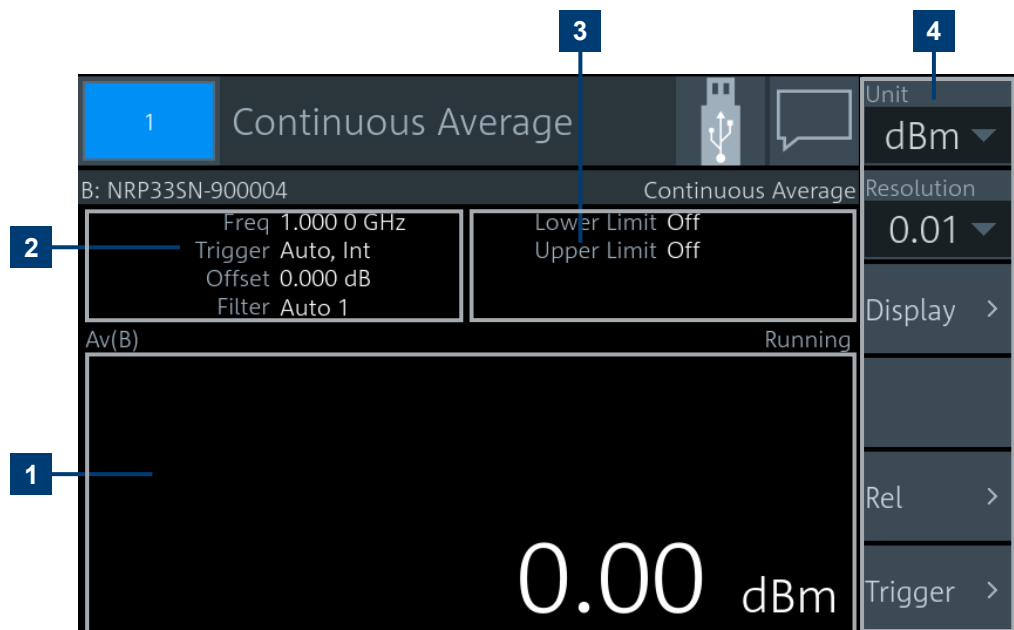

Figure 4-2: Layout of the main measurement dialog (example)
- ▶ Tap the *displayed settings*, (1) in Figure 4-2, to access the sensor settings.
- ▶ Tap the *displayed limit values*, (2) in Figure 4-2, to change limit values.
- ▶ Tap the *displayed measurement value or graph*, (3) in Figure 4-2, to change the measurement type, assign a sensor, access the sensor settings, ...
- ▶ Tap an *element in the navigation pane*, (4) in Figure 4-2, to configure the trigger, the presentation of the measurement result and further measurement-specific settings.